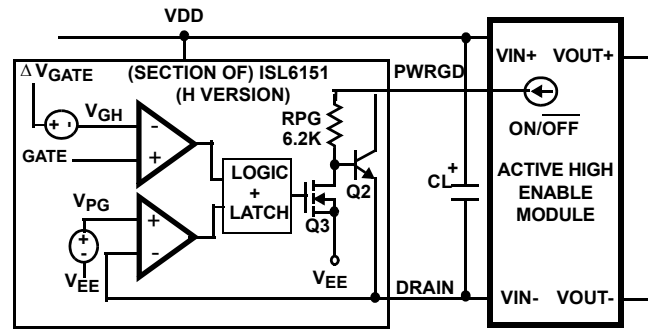

FIGURE 33. ACTIVE HIGH ENABLE MODULE
**ISL6151** (H version; Figure 33): Under normal conditions ( $\text{DRAIN voltage} - V_{EE} < V_{PG}$ , and  $\Delta V_{\text{GATE}} - V_{\text{GATE}} < V_{\text{GH}}$ ), the Q3 DMOS will be on, shorting the bottom of the internal resistor to  $V_{EE}$ , and turning Q2 off. If the pull-up current from the external module is high enough, the voltage drop across the 6.2k $\Omega$  resistor will look like a logic high (relative to DRAIN). Note that the module is only referenced to DRAIN, not  $V_{EE}$  (but under normal conditions, the FET is on, and the DRAIN and  $V_{EE}$  are almost the same voltage).
The Enable input often has a pull-up resistor or current source, or equivalent built in; care must be taken in the ISL6151 (H version) output that the given current will create a high enough input voltage (remember that current through the RPG 6.2k $\Omega$  resistor generates the high voltage level; see Figure 33).